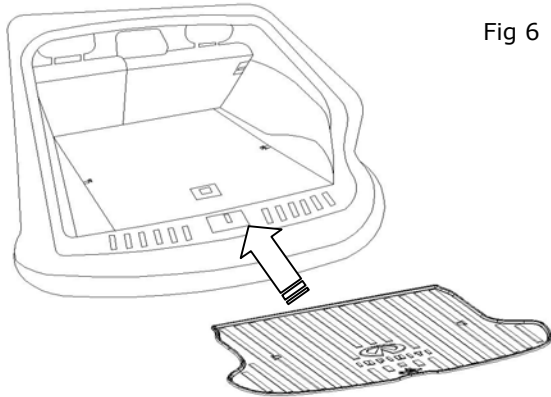

Fig 6
- d) Place the cargo tray in the vehicle. Ensure the Attachment Brackets are accessible from above the cargo tray (see Fig 6 & 7).